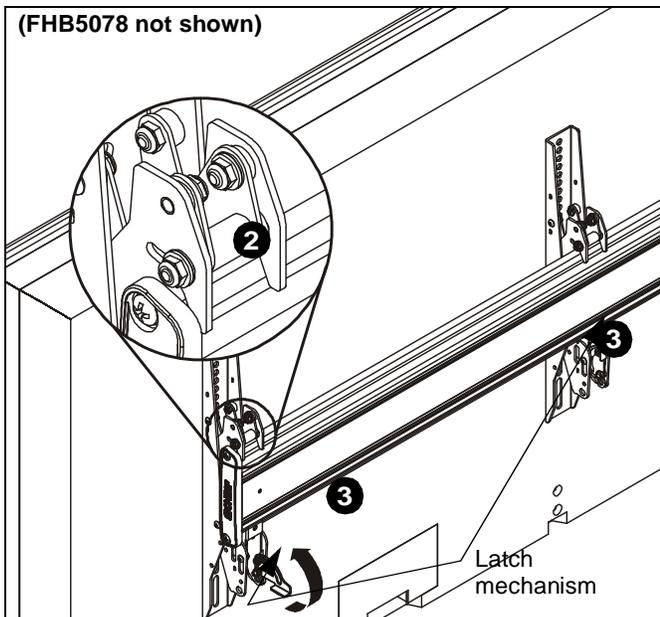

Figure 18
2. While supporting both sides of display, lower display onto one side of mounting rail, hooking top of interface brackets onto front of mounting rail. (See Figure 18)
3. Raise the latch mechanism on both interface brackets to lock bracket in place. (See Figure 18)
6. While supporting both sides of each remaining display, lower display onto mounting rail, hooking top of interface brackets onto front of mounting rail. (See Figure 18)